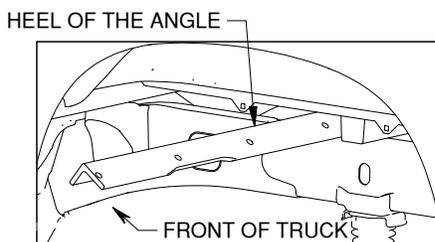
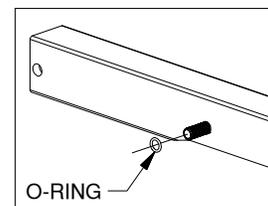

Figure B1: View looking into wheel well.
Figure B2.
1. **Install front cross member.** Starting in the driver side wheel well, orient the front cross member (angle iron) so that the heel of the angle is up and the flange with the holes is towards the back of the truck, see Figure B1. Pass the cross member between the bed and the frame until it rests on the passenger side frame. Roll the cross member so that the flange with the holes is vertical. Install a 1/2" X 1-1/2" cap screw into the second hole from the driver side of the cross member with the threads towards the back of the truck. Install the rubber O-Ring onto this bolt to keep it in place during installation, see Figure B2. Push the passenger side of cross member forward until it hits the shock bracket. Push the driver side of the cross member forward to make extra room for the center section to be installed.